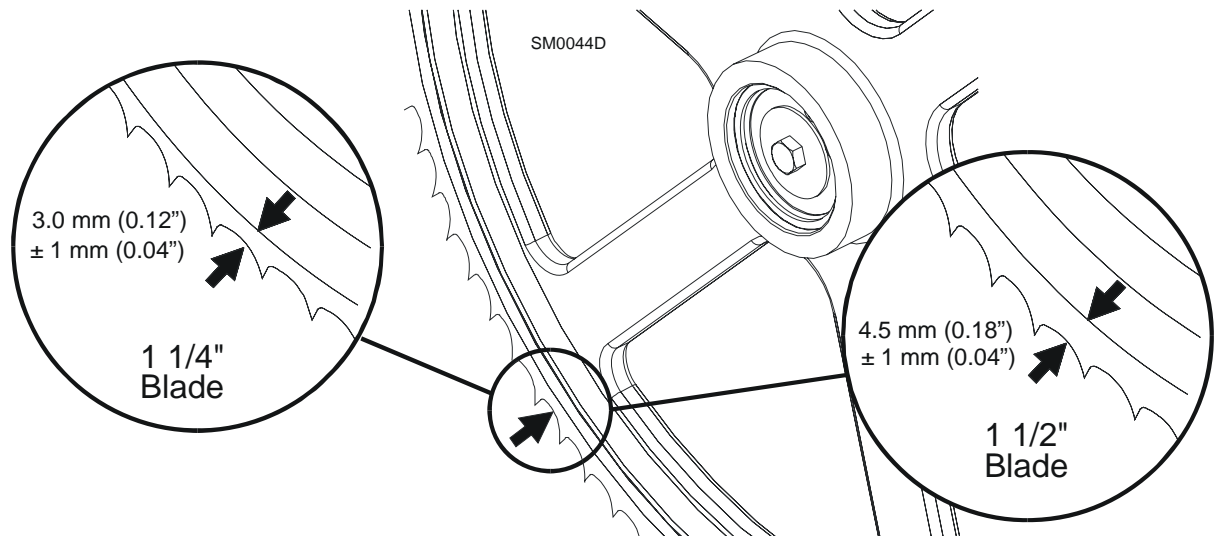

**FIG. 7-18**
**See Figure 7-18.** Use the vertical adjustment screws to adjust the idle-side blade wheel. To tilt the wheel up, loosen the bottom adjustment screw one quarter turn. Loosen the jam nut on the top adjustment screw and tighten the screw. Tighten the top and bottom jam nuts.